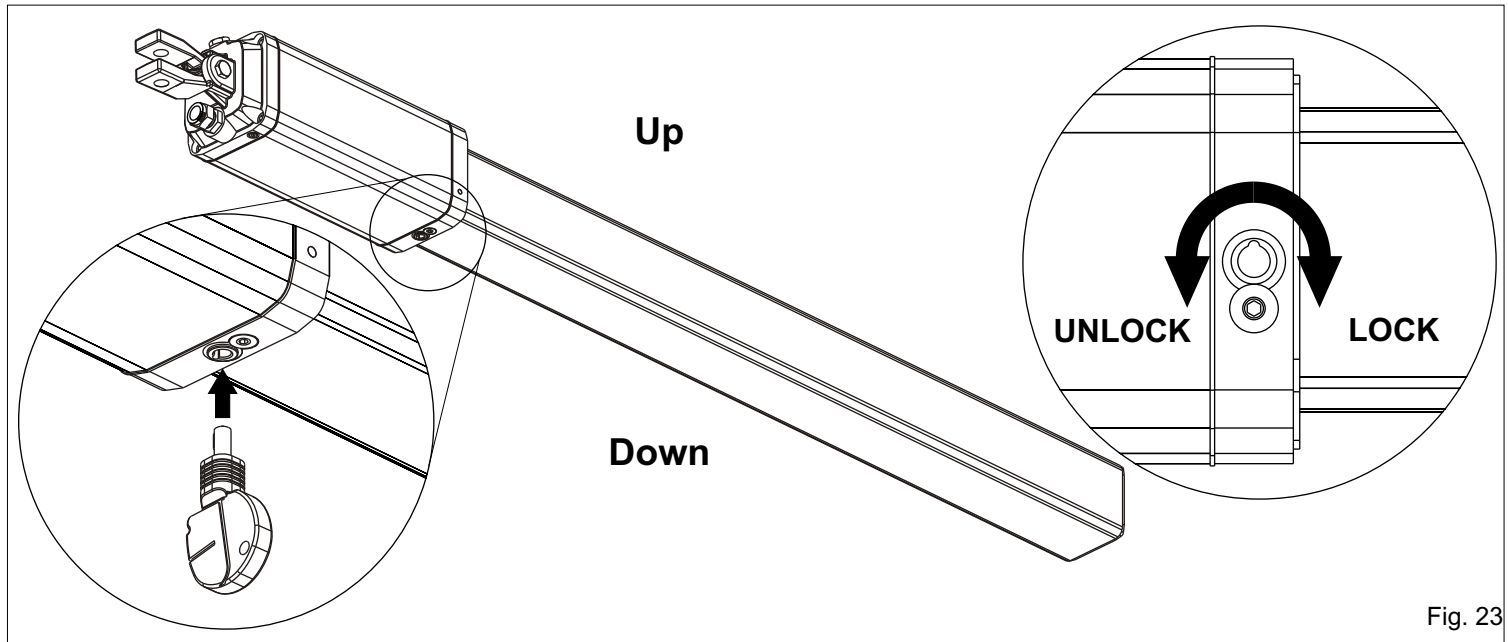

Fig. 23
1. Release the operator (as in fig. 23 pag.11)
- release the unit (as in fig. 23 of page 10)